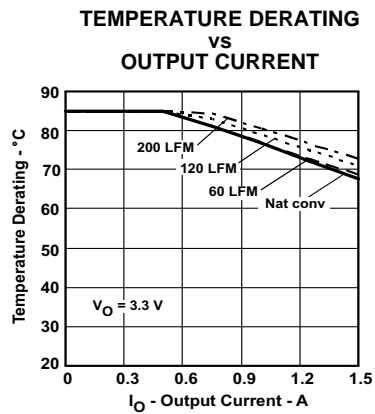
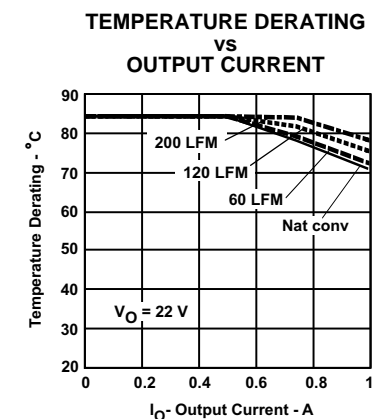

Figure 21.
Figure 26.
- (2) The temperature derating curves represent the conditions at which internal components are at or below the manufacturer's maximum operating temperatures. Derating limits apply to modules soldered directly to a 100-mm x 100-mm, double-sided PCB with 2 oz. copper. Applies to Figure 21 through Figure 26.